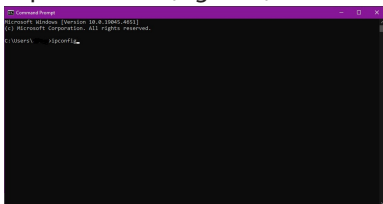

Figure 2
3. In the **Command Prompt** or **Terminal**, type the command **ipconfig** and press **Enter**. (Figure 2)